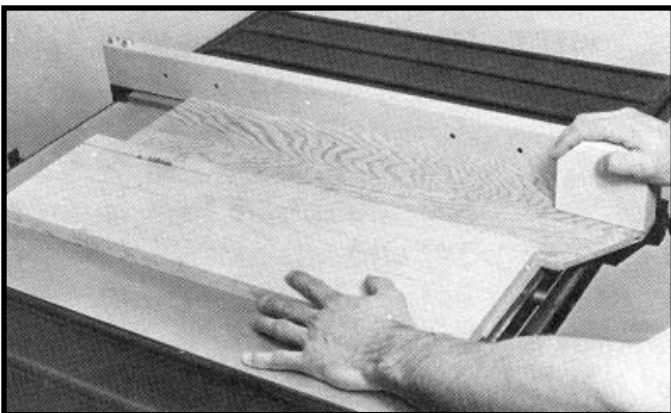
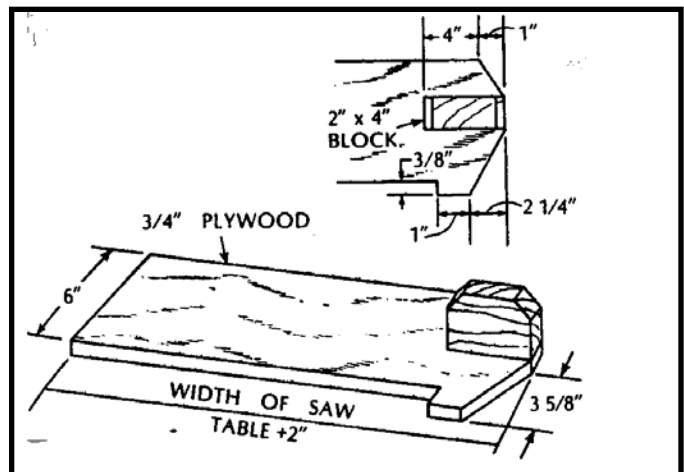

Fig. 126B
Fig. 126A
3. Ripping narrow pieces can be dangerous if not done carefully. Narrow pieces usually cannot be cut with the guard in position. If the workpiece is short enough, use a pushboard. When ripping material under 2 inches in width, a flat pushboard is a valuable accessory since ordinary type sticks may interfere with the blade guard. When using a pushboard, the width of the pushboard must be added to the width of the rip fence position setting. A flat pushboard can be constructed as shown in Fig. 126A and should be used as shown in Fig. 126B.